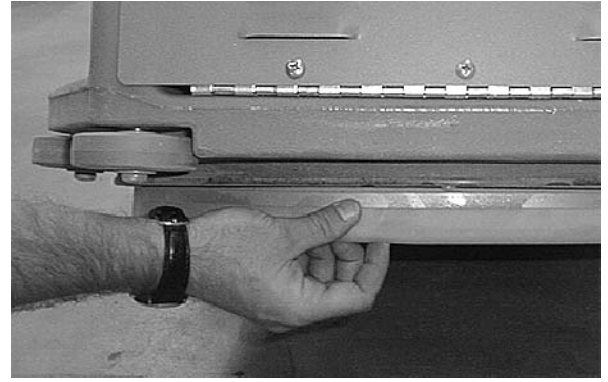

FIG. 29
6. Check the condition of the dust skirt, replace if worn (Figure 29).